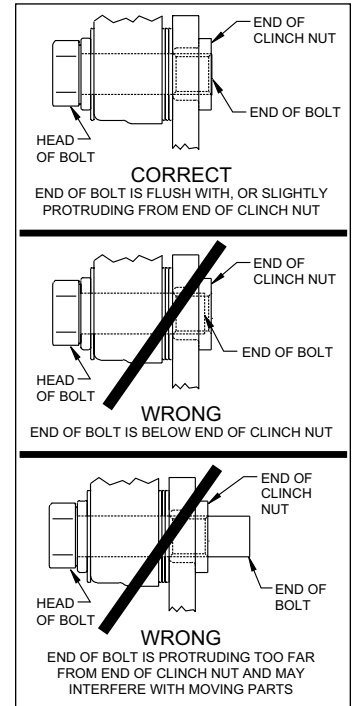

Figure 4. Clinch Nut Engagement Diagram
CAUTION: All mounting bolts must fully engage clinch nuts. Be sure to check that all bolts are either flush or protruding through flanged side of clinch nut after shimming, Figure 4.
- Pack the small outer bearing cone (10) with high temperature disc brake bearing grease and install into hub (9). Slide the hub/rotor onto the spindle. Secure using spindle washer (11) and nut (12), Photo 6. Adjust bearings per OEM specifications. Install new cotter pin (13).
- Press the dust cap (14) into hub (9).
- NOTE:** Please reference the caution statement at the beginning of the assembly instructions. Mount the caliper (15) onto the caliper bracket (1) using bolts (17) and washers (16), as shown in Figure 1. Initially place two .035" thick shims (18) on each bolt between the caliper and the bracket, Photo 7. Temporarily tighten the mounting bolts and view the rotor (9) through the top opening of the caliper. The rotor should be centered in the caliper, Photo 8. If not, adjust by adding or subtracting shims (18) between the bracket and the caliper. Always use the same amount of shims on each of the two mounting bolts. **NOTE:** The end of the bolt must be flush with or slightly protruding from the head of the clinch nut in the bracket. If necessary, place spare shims between the washer and the caliper mounting ear to achieve the proper clinch nut engagement, as shown in Figure 4. Once the caliper alignment is correct, remove the bolts one at a time, apply red *Loctite*® 271 to bolt threads, and torque to 40 ft-lb.
- Install the disc brake pads (19) into the caliper, with the friction material facing the rotor (8), Photo 9. Secure in place using cotter pin (20), Photo 10.
- NOTE:** OEM rubber brake hoses generally cannot be adapted to Wilwood calipers. The caliper inlet fitting is a 1/8-27 NPT (use PTFE tape on pipe threads of adapter fitting for proper sealing to caliper). Install Wilwood's stainless steel braided flexline hose kit (5), P/N 220-7699 included with this kit. **Carefully route hoses to prevent contact with moving suspension, brake or wheel components.** Using the supplied grommet, route the new hose through the factory retaining bracket. Pinch the bracket closed enough to retain the new grommet and hose in place, while not binding or damaging the hose. **NOTE:** Wilwood hose kits are designed for use in many different vehicle applications and it is the installer's responsibility to properly route and ensure adequate clearance and retention for brake hose components.